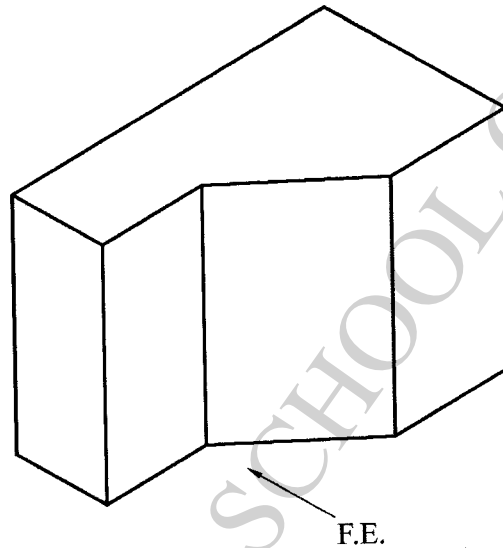

Figure 2
- 10 **Figure 2** shows a shaped block drawn in isometric projection. (5 marks)